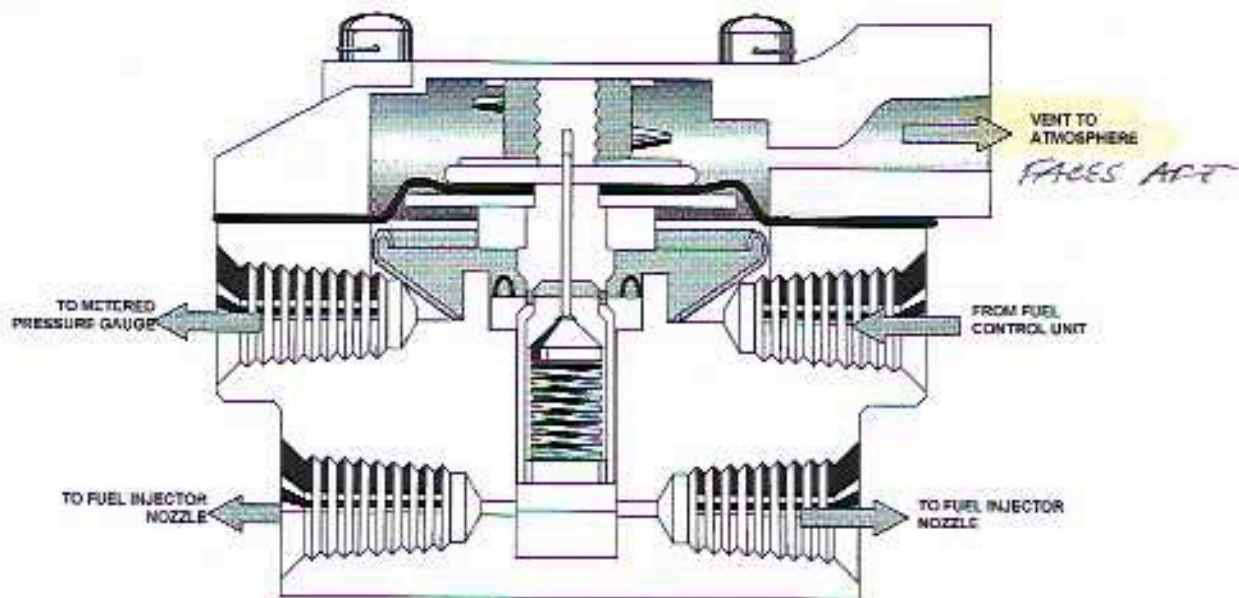

Figure 4-4. Fuel Manifold Valve
① **Fuel Manifold Valve** - The third component in our continuous flow fuel injection system is the fuel manifold valve. This valve serves two basic functions, each of which will be explained separately. The first function of this valve is to provide positive fuel cut-off between the Fuel Control unit and the nozzles during engine shutdown and when the injection system is not in operation. Referring to Figure 4-4, you can see the diaphragm that is attached to the top of the valve to create two separate chambers. The spring serves to counteract the force of fuel pressure acting on the opposite side of the diaphragm. The upper chamber is vented to atmosphere while the lower chamber interacts with fuel under pressure from the metering unit. This positive fuel pressure will open the cut-off valve and permit fuel to flow. A valve rated at 4 PSI will actually begin to open at 3.5 PSI. It will be fully open at 4 PSI. Fuel entering the lower chamber under pressure pushes the diaphragm and attached valve up. This action uncovers the entrance ports in the valve permitting fuel to flow into the interior of the valve and out the distributor ports to the nozzles.